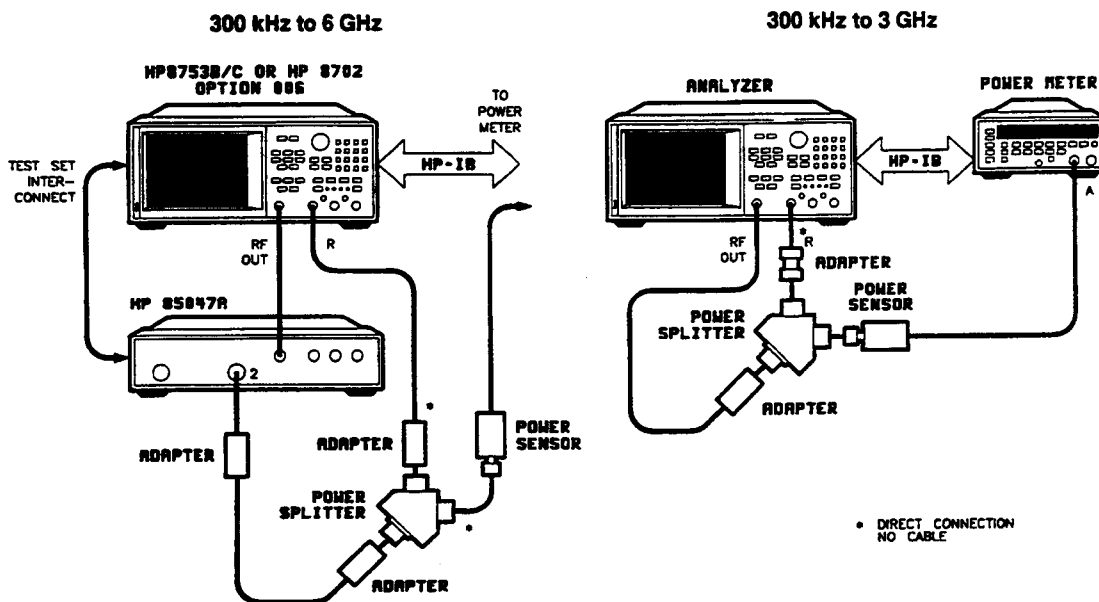

Figure 19. Input R Sampler Correction Setup
16. Connect the test equipment as shown in Figure 19.